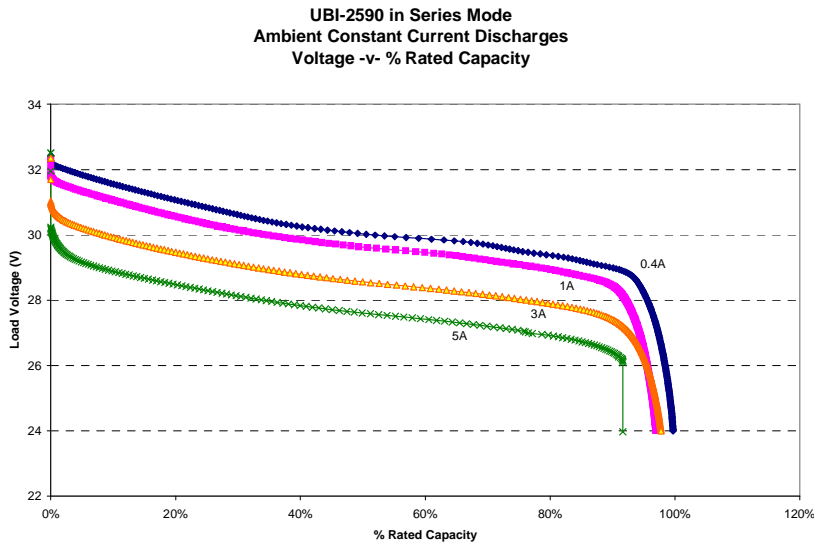

Figure 7
11.5. Series Mode (16.4v) Ambient Constant Current Discharges Voltage –v- Rated Capacity (Figure 7)